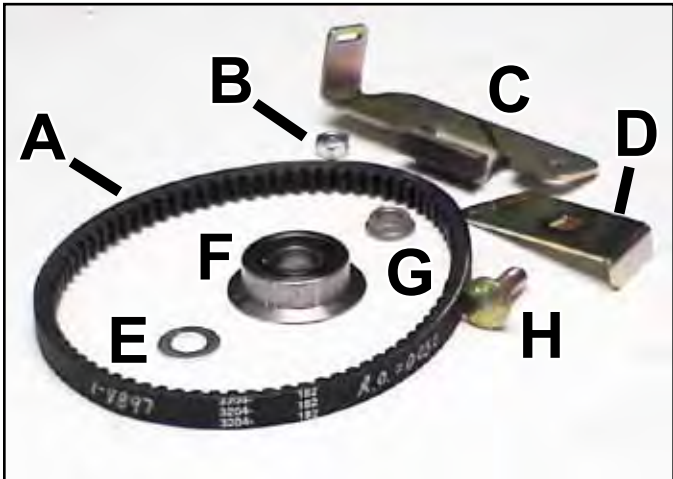

Fig 246 MVC-209Xa
10. The components of the idler assembly are shown here (Fig. 246).